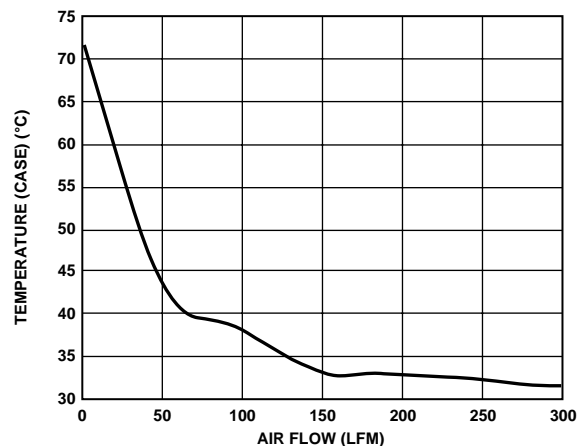

Figure 18. Temperature (Case) vs. Air Flow (Ambient)
- The unit rises to ~72°C (t_c) on the heat sink in still air (0 linear feet per minute (LFM)). The minimum recommended air flow is 100 linear feet per minute (LFM) in either direction across the heat sink (see Figure 18).